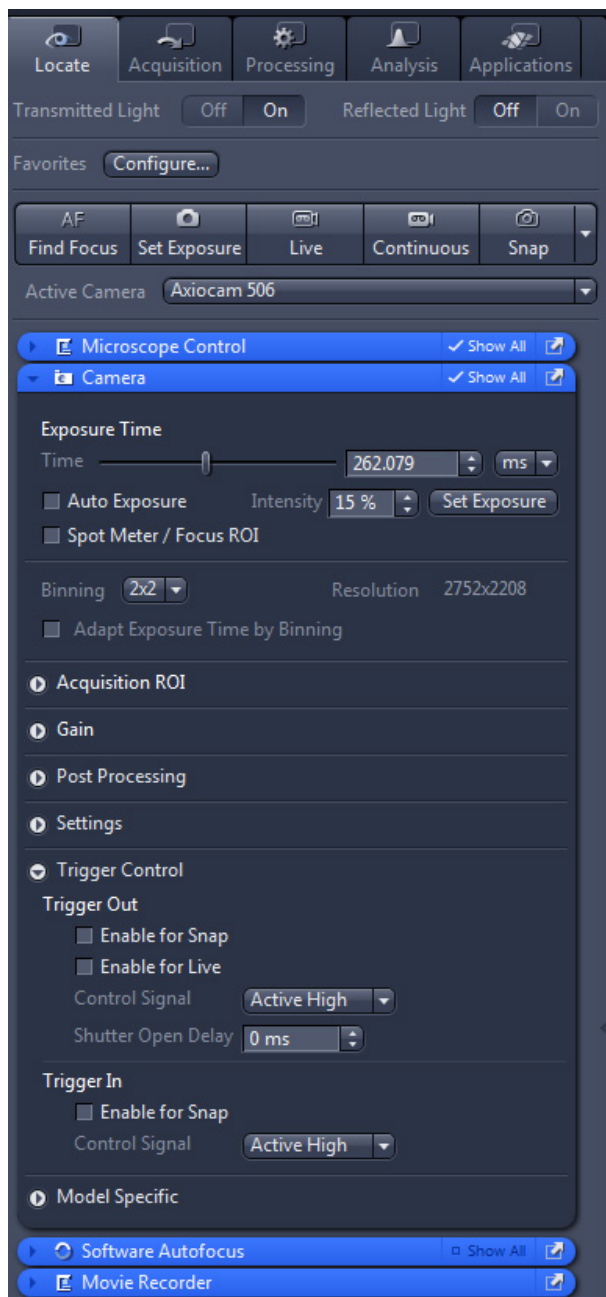

Fig. 18 "Locate" tab – "Camera" tool
- In the **Locate** tab, expand the **Camera** tool by clicking on the expander  (see Fig. 18).
- Activate the checkboxes **Enable for Snap** and **Enable for Live** in **Trigger Control -> Trigger Out** (see Fig. 18)